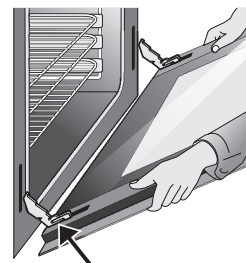

Figure 44: Holding door for removal
3. Grasp both sides of oven door along the door sides. Do not use the oven door handle (See Figure 44).
4. Keep pulling the bottom of the door toward you while rotating the top of the door toward the appliance to completely disengage the hinge levers (Figure 44).
1. Firmly grasp both sides of oven door along the door sides. Do not use the oven door handle (See Figure 44).
2. Holding the oven door at the same angle as the removal position, seat the hook of the hinge arm over the roller pins located on each side of the oven door frame (See Figure 44). The hook of the hinge arms must be fully seated onto the roller pins.